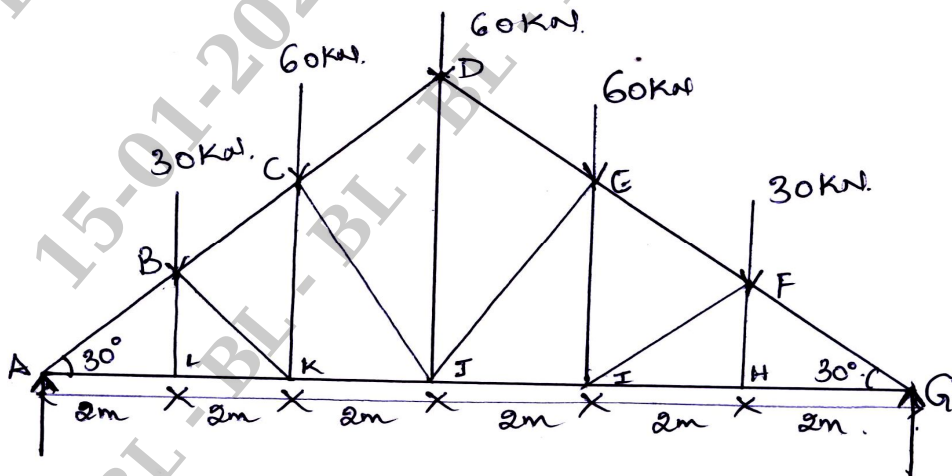

Fig.Q3
- 3 A line diagram of Roof truss with internal loads and forces in each member are shown in Fig.Q3. The design of various member of the roof truss along with their end connection with bolt of property class 5.6. Also, design the bearing plate at support for the reaction and Anchor bolts for an uplift force of 15 kN. Also draw the elevation of the truss greater than half span.